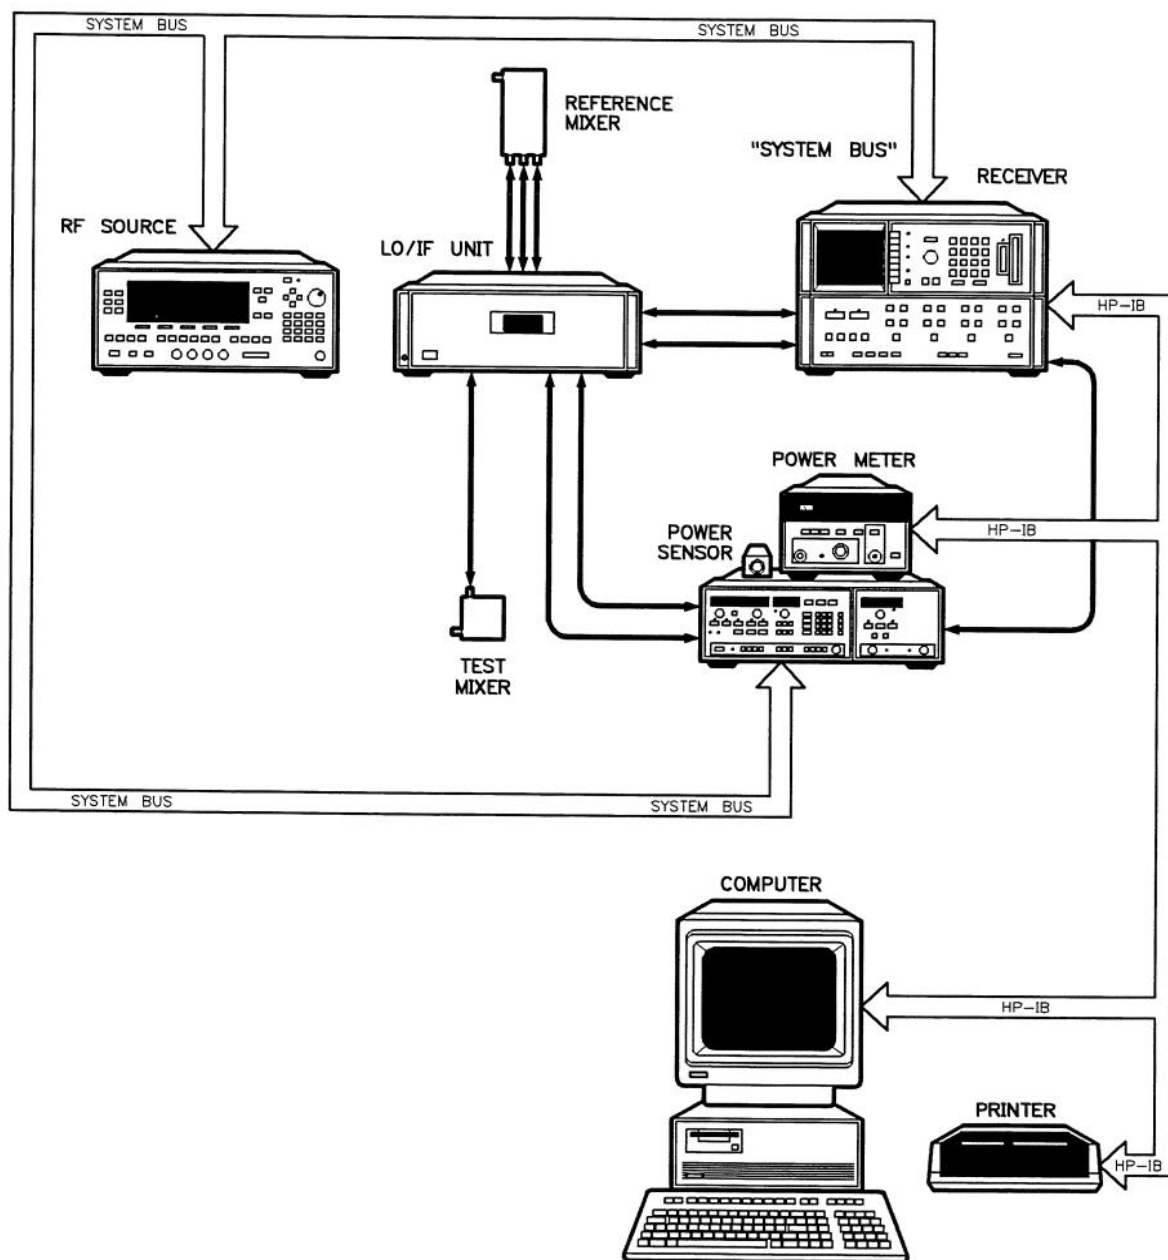

Figure 4-5. Instrument Configuration Diagram
3. Connect system components as shown in (figure 4-5), Configuration Diagram. The mixers must be placed near the verification system during the performance verification. If the RF SOURCE to SPLITTER cable is different than the recommended cable, then it must be as short as possible with very low RF loss.
- Are the instruments and cables set up properly? (see figure 4-5).